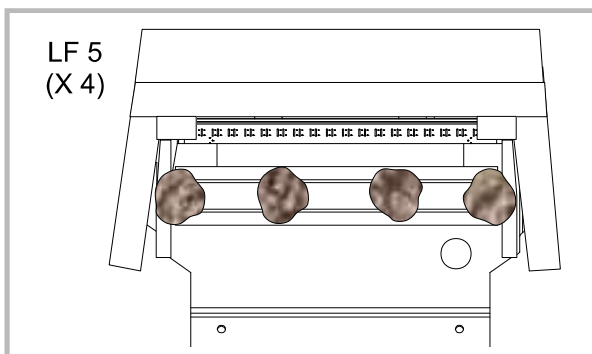

Figure 5 - Ceramic coals (type LF 5)
- Replace the components back onto the burner in their correct positions (fig. 5 and 6).
- Fit the 4 ceramic coals (type LF 5) as shown in the diagram (fig.5).